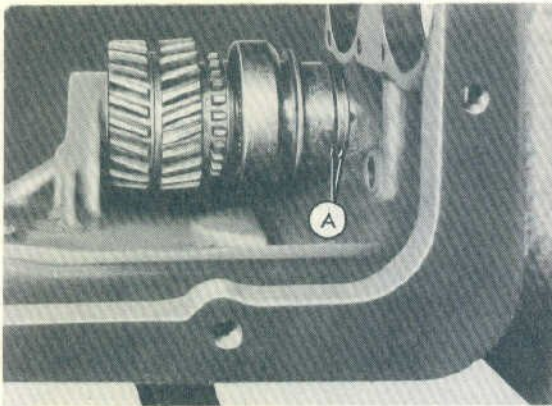

Fig. 7
Step 9—Remove the reverse idler assembly (Figure 7).
Step 10—Remove the washer and spacer (A-Figure 7).